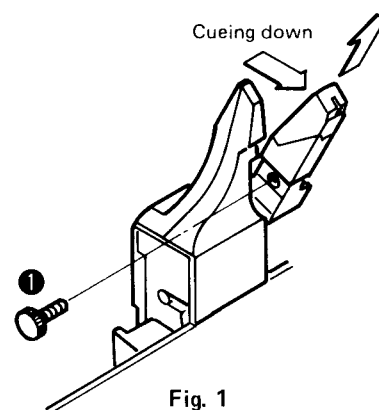

Fig. 1
3. Remove the cartridge setscrew (Fig. 1: ❶), and pull out the cartridge.